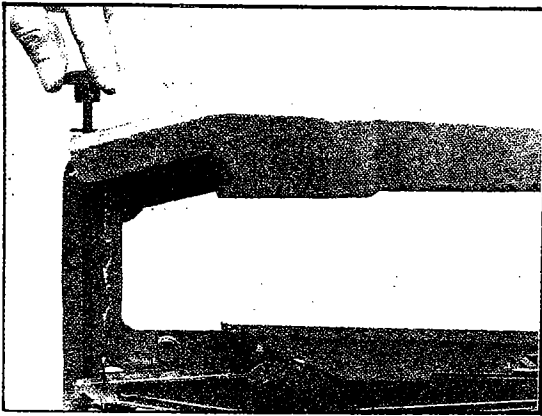

FIGURE 6
2. Release tension knob by turning counter clockwise until blade assembly is loose. See Figure 6.
4. Use allen wrench to loosen the two(2) Hex. screws in blade holders and then remove the blade.